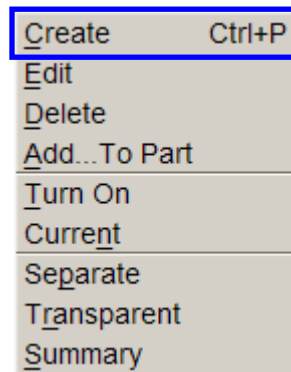

Figure 38: Preprocess menu
2. Create a new part called **LOWRING**. This part will keep the elements separated from the **LOWTOOL**. Click **Parts**⇒**Create** on **Menu bar**. See Figure 38.